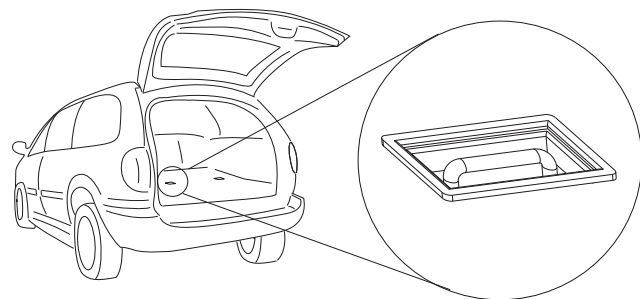

Figure 4-9
3. Examine the floor for additional seat attachment points. These must be recessed into the floor. *See Figure 4-9.*